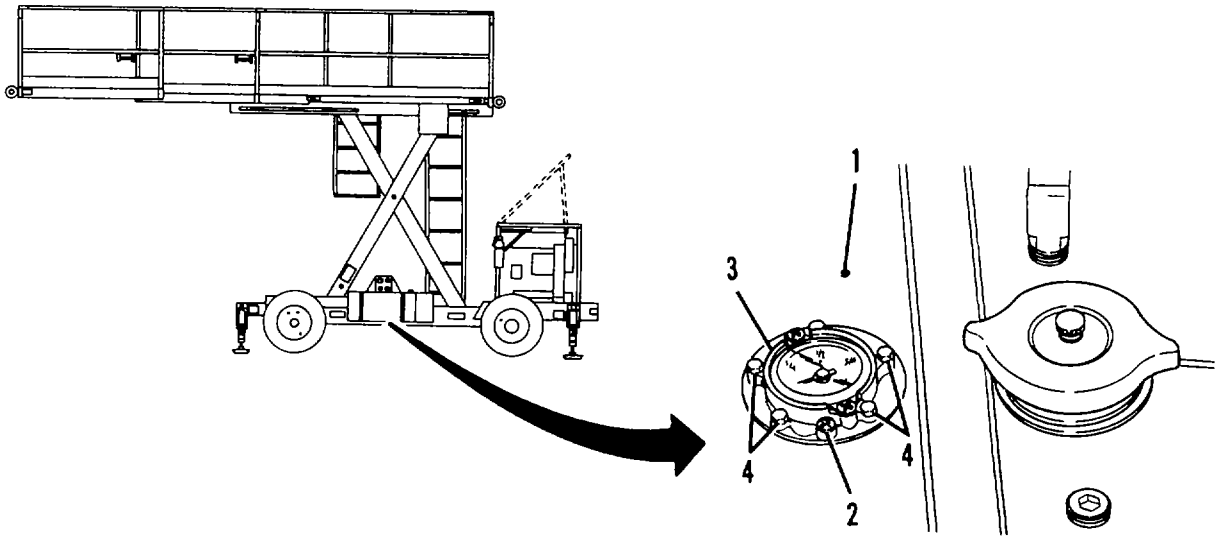

Figure 3-47. Fuel Tank, Repair.
- (1) Remove all fuel from the fuel tank (1, Figure 3-47) with a fuel transfer pump.